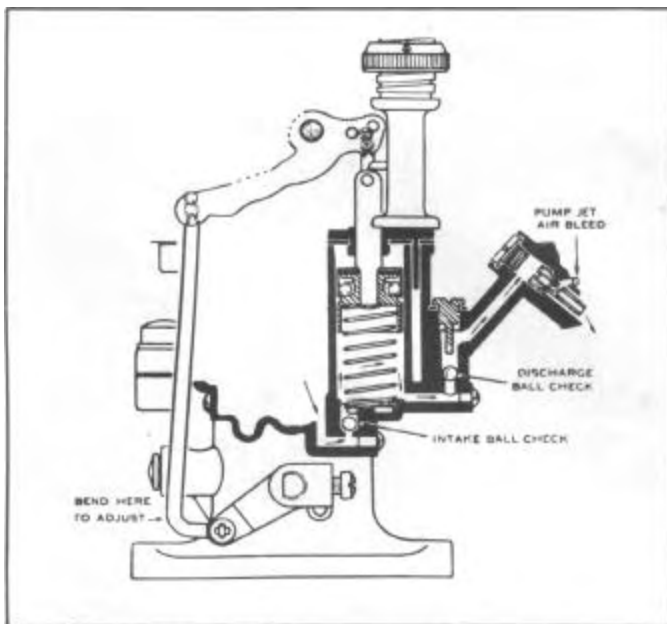

FIGURE 39
20. With throttle connector rod in place, adjust pump stroke. Use Carter universal pump travel gauge T-109-117S or machinist's scale, Figure 39, and set pump travel to $16/64$ ". Adjust by bending throttle connector rod at lower angle.